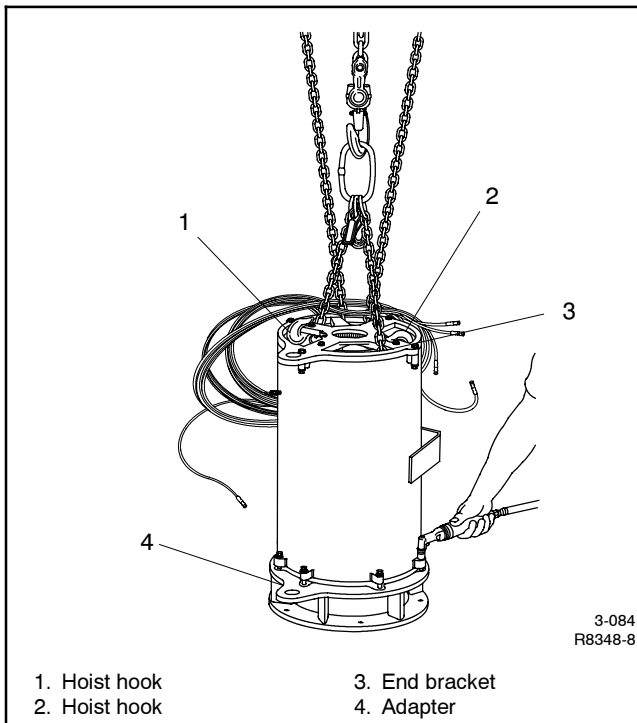

Figure 4-9 Removing Alternator Adapter
22. Place the alternator assembly on the alternator adapter end in order to remove the alternator adapter and end bracket from the stator. Fasten chains to the alternator adapter and lower to a horizontal position. Fasten hook to the end bracket eye and hoist to a vertical position. See Figure 4-9.